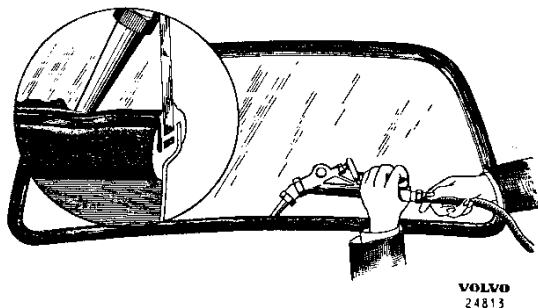

Fig. 34. Puttying the glass.
4. The groove in the rubber strip is sealed with putty. The putty applicator is moved as shown in Fig. 34. A compressed-air applicator should be used partly so that the putty goes sufficiently deep in the groove, and partly so that even filling is obtained. The applicator should be moved round at the angle shown in Fig. 34.